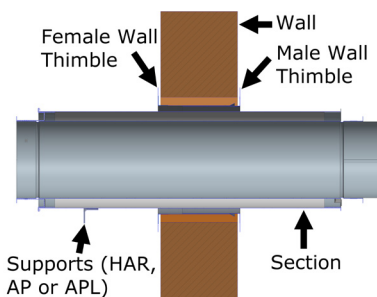

Figure 59c - Supports for Chimney passing through a Wall
Chimney that penetrate wall have to be supported at least on one side of the wall, supporting the section that penetrates through the wall. It can either be supported by bracing a Half angle Ring (HAR), Anchor Plate (AP), or Anchor Plate Length (APL) See Figure 59c